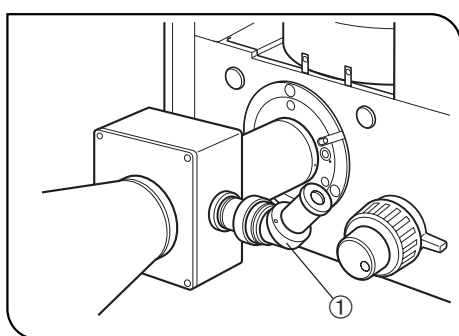

Fig. 73
- ☉ If the viewfinder of the photomicrographic system mounted on the side port is hard to view, it is recommended to use the optional U-FTV V-shaped focusing telescope ①. (Fig. 73)
- Slide the top portion of the U-FTV ① up or down until the photo masks are brought into focus. (Fig. 73)